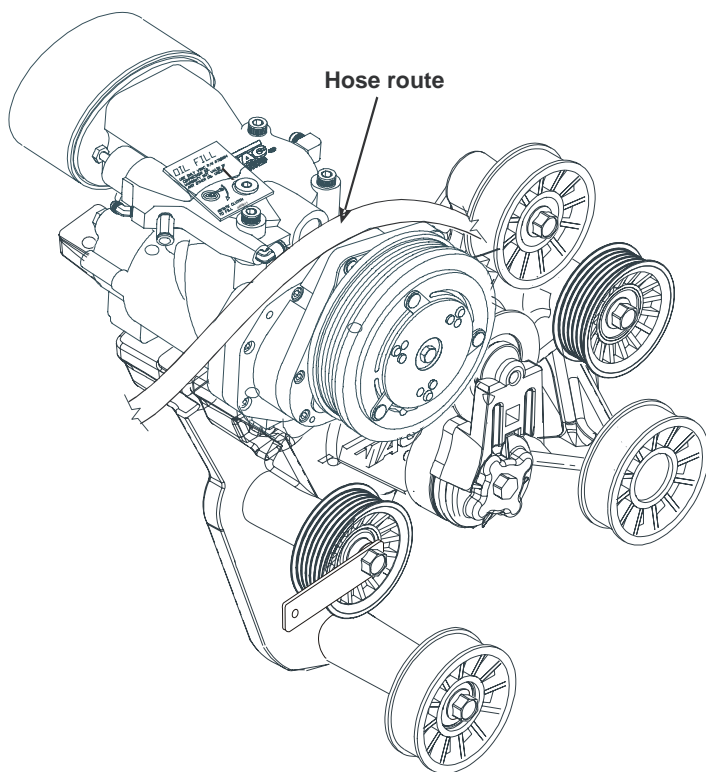

Figure 2.8
- ☐ Insert the compressor mounting studs into the mounting bracket, with the 1/2 inch hose under the side of the alternator mount. Route the hose tightly over the top of the compressor between the inlet control valve and the drive pulley (Figure 2.8).